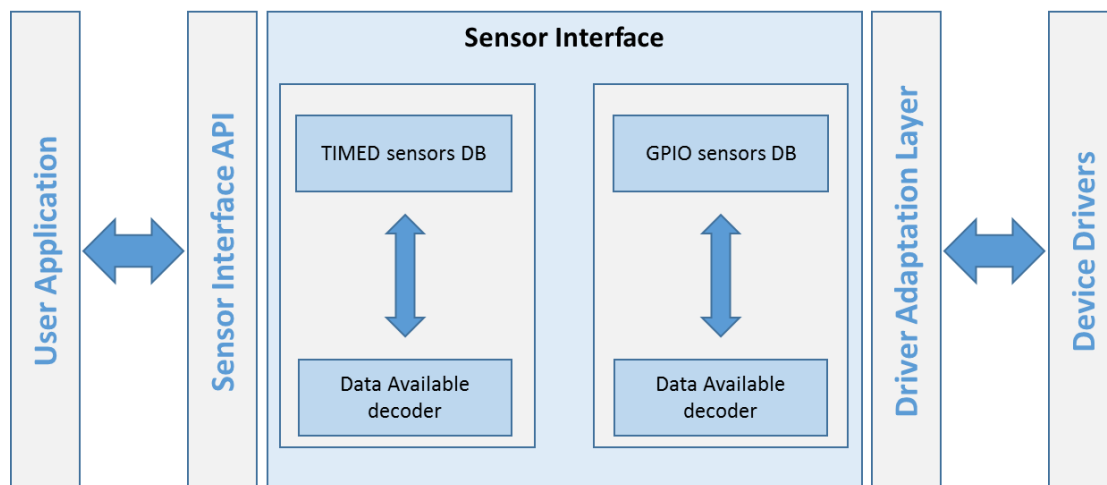

Figure 7: Sensor Interface Overview
The purpose of this module is to simplify the integration and operation of any sensors. Users who follows the described methods should ignore the sensor complexity and treat new sensors or the currently installed sensors with the same approach. With the **Sensor Interface** (SI) software module, users do not have to program complex implementations that directly use timers and the `wkup_adapter` module. An overview of this module is presented in Figure 7.
The "Sensor Interface API" is part of the "Sensor Interface" module shown in Figure 7 and provides the following functionalities to users: